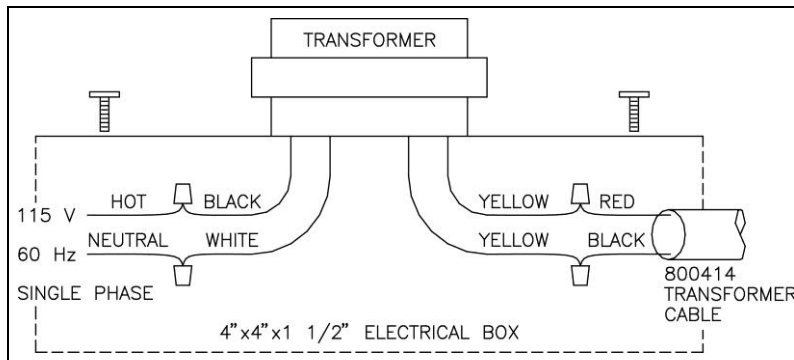

Figure 5: Transformer Installation
4. Connect 115 VAC line voltage HOT wire to BLACK wire on transformer and NEUTRAL wire to WHITE wire on transformer (Figure 5).